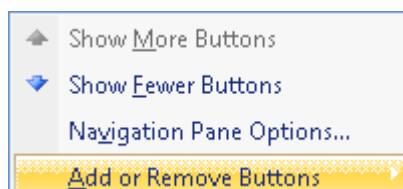

Figure 4-113. Selecting Add or Remove Buttons
The **Configure buttons** menu opens, see Figure 4-113.
4. Select **Add or Remove Buttons** to open the selection menu, see Figure 4-113.